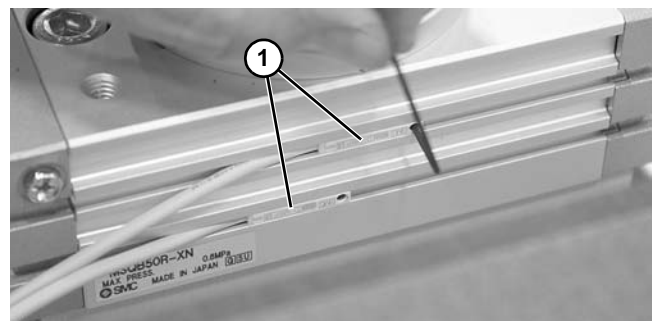

Figure 56
8. Install optional sensors (**Figure 56, item 1**) to detect counter-clockwise and clockwise movement. Tighten set screws.